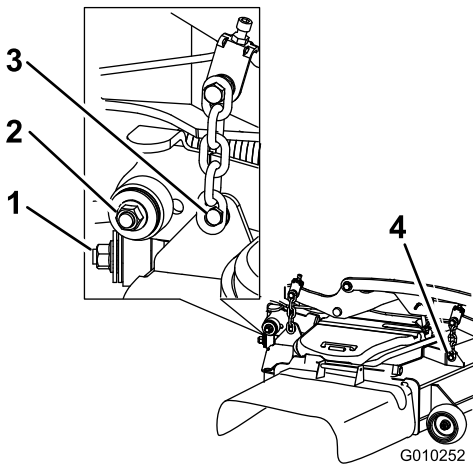

Figure 123
7. Remove and retain the hardware on both sides of the deck as shown in Figure 123.